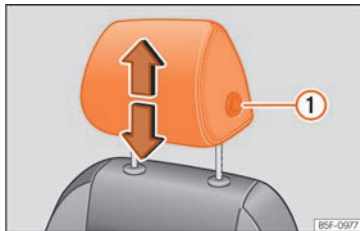
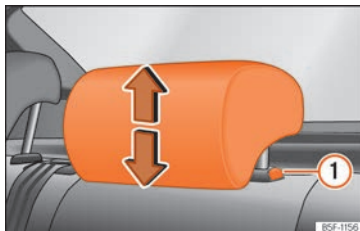

Fig. 108 Front seat: headrest adjustment.
Fig. 109 Rear headrest: headrest adjustment. »
- Grab the sides of the headrests with both hands and push upwards to the desired position. To lower it, repeat the same action, pressing the ① » Fig. 108 » Fig. 109 button on the side.
- Press the side button » Fig. 108 ① and remove the headrest.